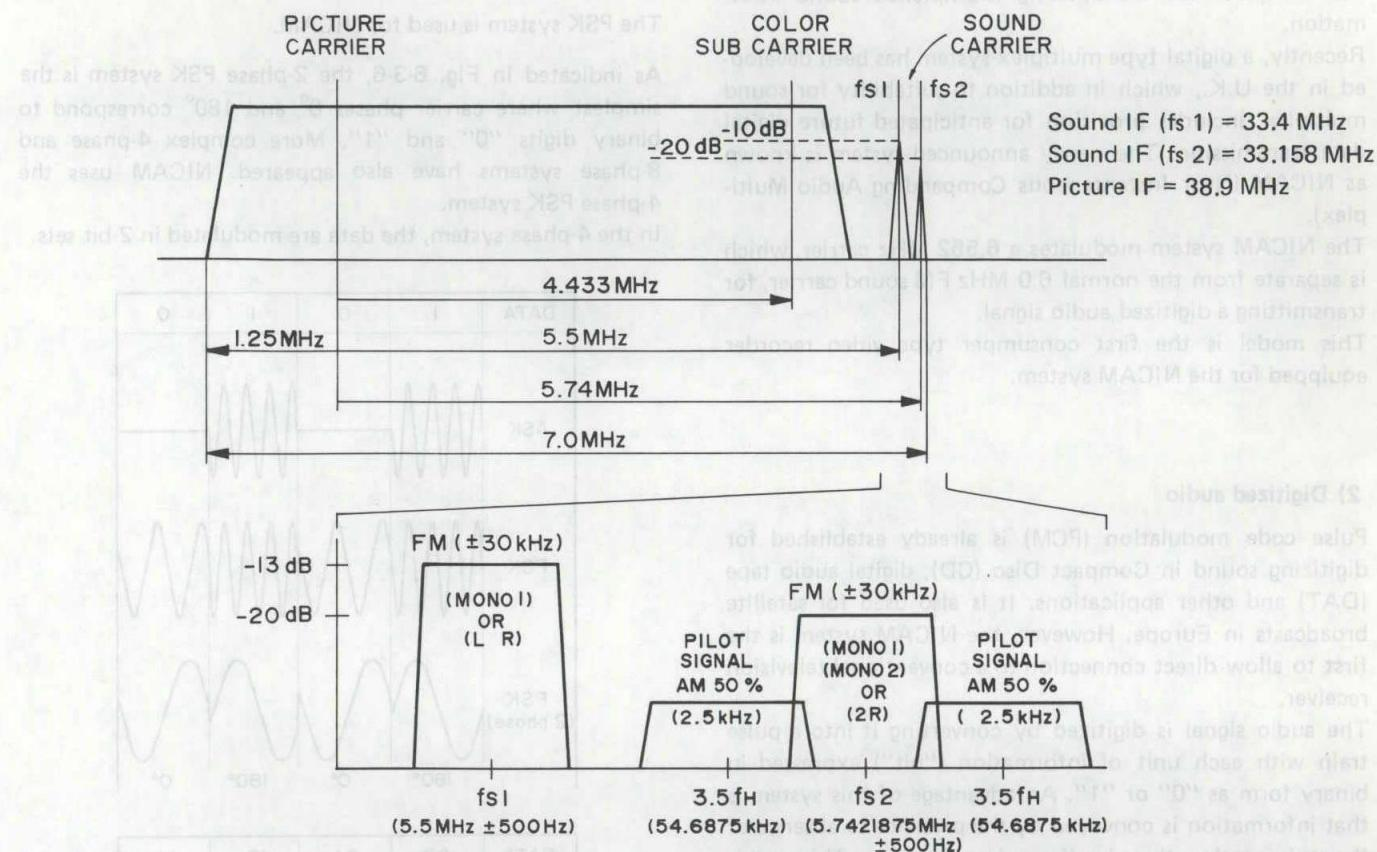

Fig. 6-3-5 West Germany sound multiplex baseband spectrum
Fig. 6-3-5 illustrates the spectral diagram of the West Germany sound multiplex signal.
- Stereo: In stereo broadcast, the 64 blocks of the frame data is sent alternately as L-CH and R-CH. Each channel includes 32 samples. (Refer to Fig. 6-3-5.)